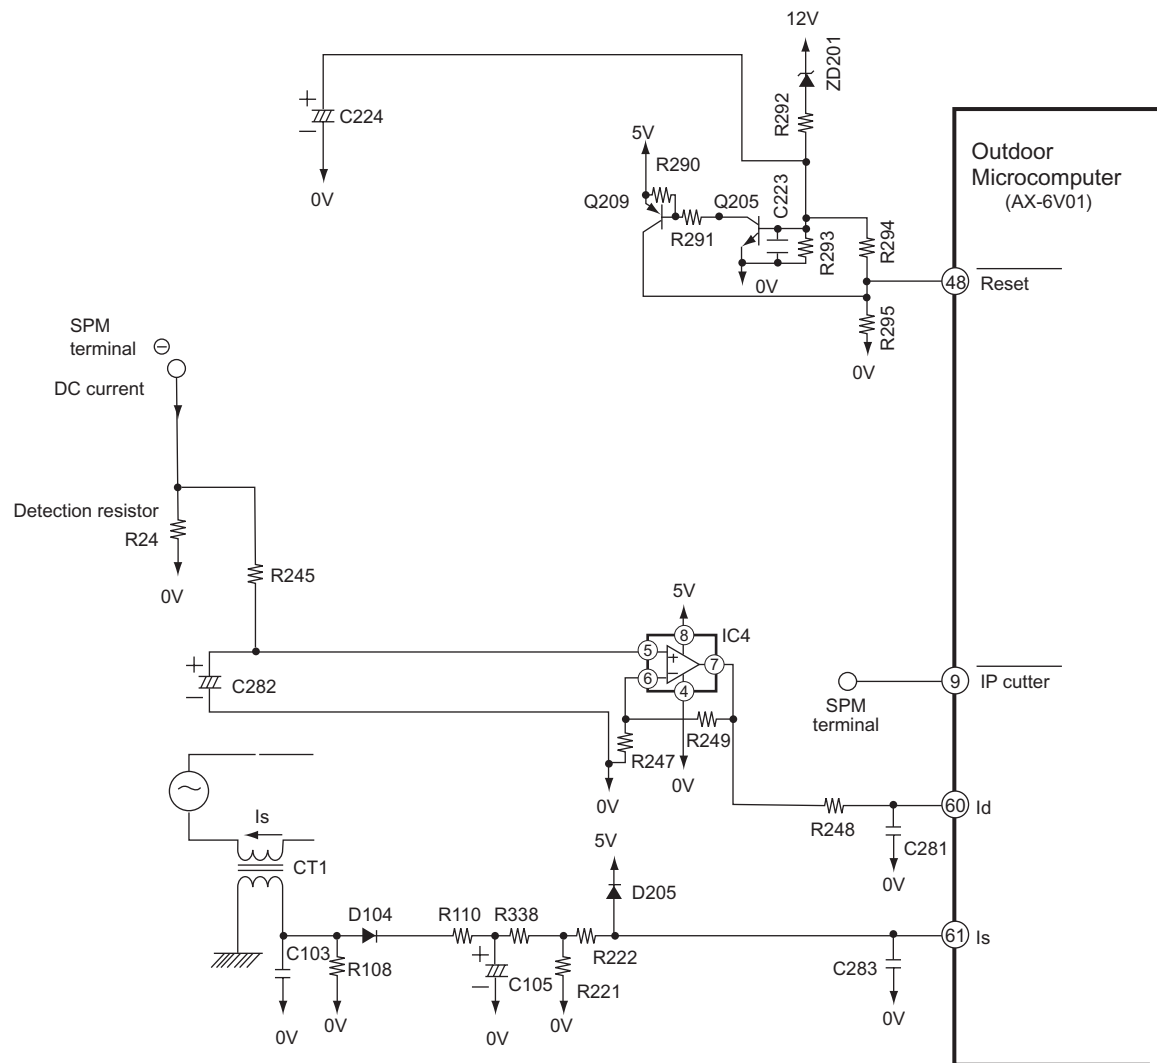

Fig. 7-1 Peripheral circuit of microcomputer (AX-6V01)
- Fig. 7-1 shows the microcomputer and its peripheral circuits.